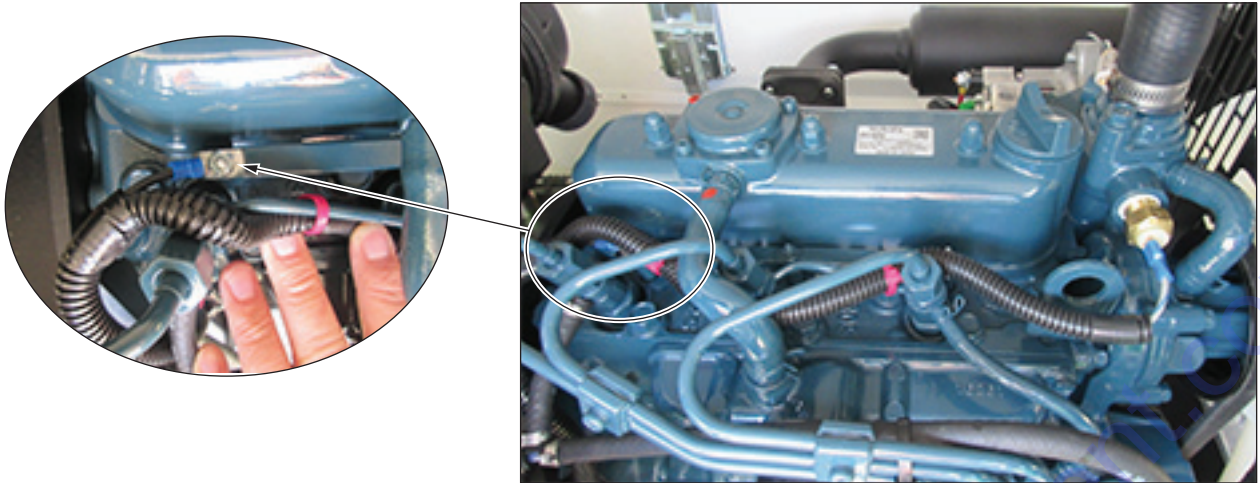

Figure 5 - Glow Plug Wire
c. See Figure 5. Disconnect glow plug wire.